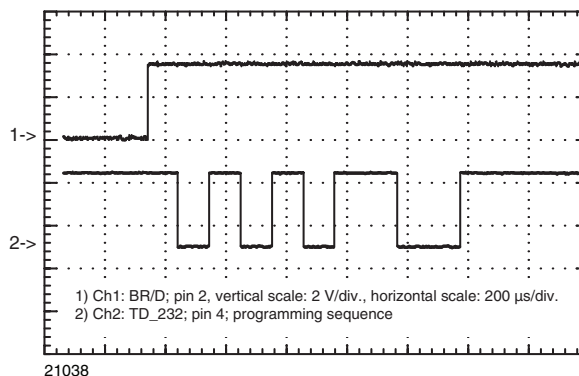

Figure 5.
The diagram in figure 5 shows the programming byte “0-1010-1100” in the order
**STA, B0, B1, B2, B3, S0, S1, S2, X. This order is from right to left in table 1. B0 is sent first as LSB (see figure 5).**
In the oscilloscope that will be shown in the reserved order with LSB first, see figure 5.
In figure 5 the programming sequence is shown for a bit rate of 12.8 kbit/s.
Programming sequence for setting the Endec to a bit rate of 12.8 kbit/s as in figure 5 but with a 3/16 bit pulse duration (S0 = “0”).